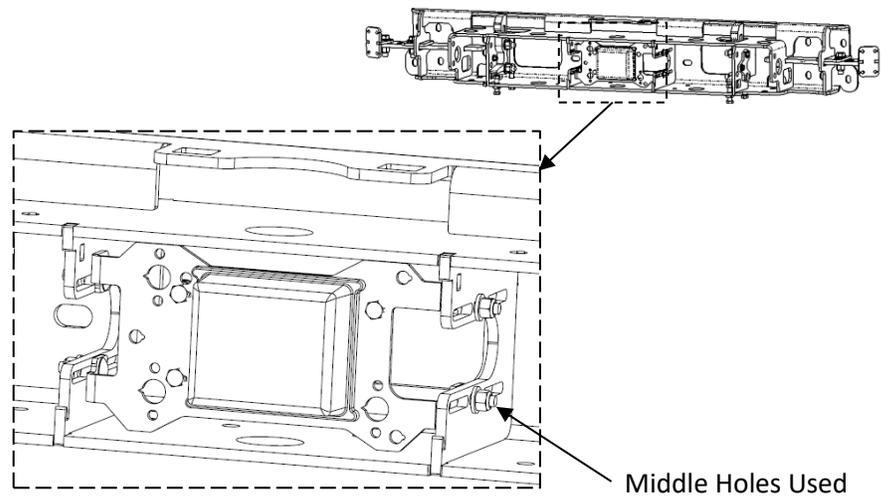

Figure 7 - Detroit Assurance Radar Sensor Installation
2. Mount the radar sensor bracket to HERD bumper bracket, use middle holes as shown in Figure 7.